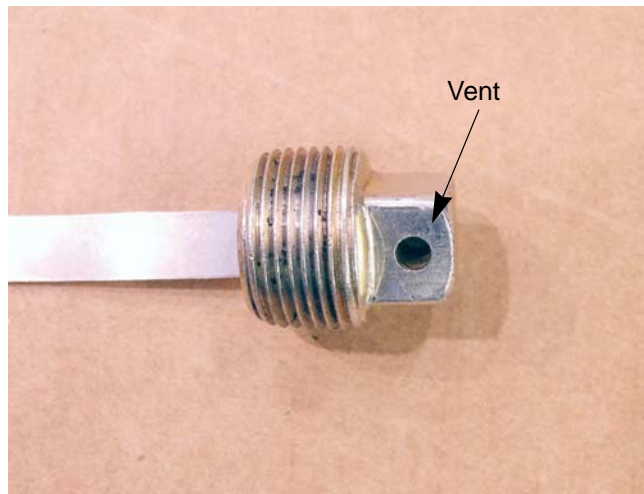

Figure 3.13
F. Inspect the tank vent: See Figure 3.13.